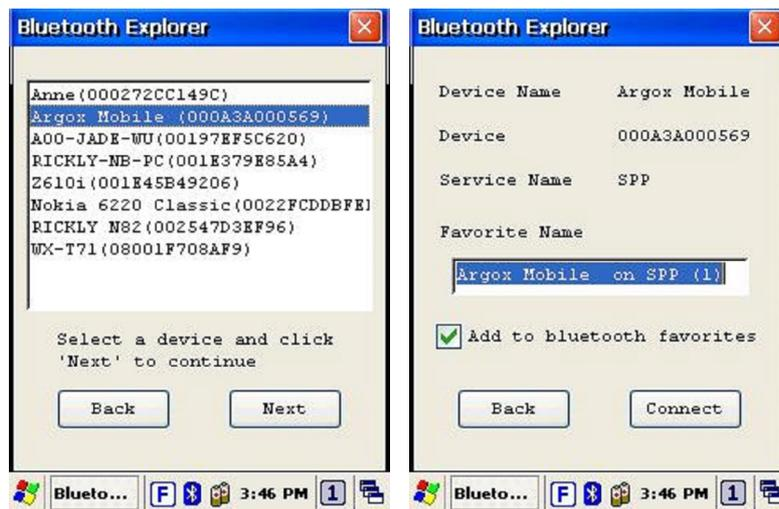

Figure 3-24 Bluetooth Serial Port
8. After press **Next** button, it will start to search device like Figure3-24.